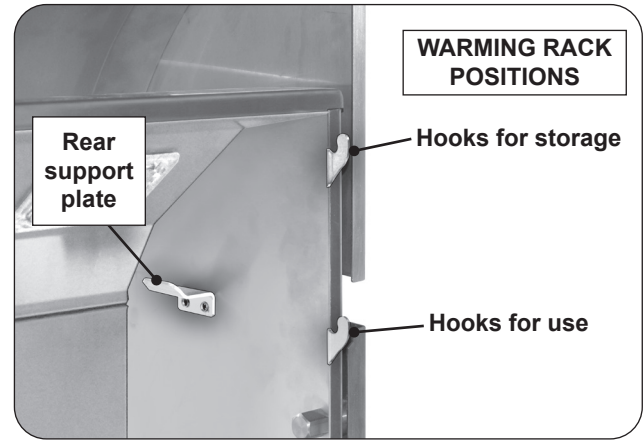
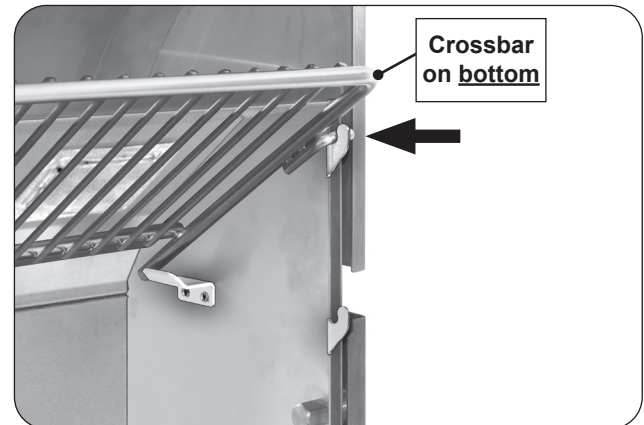

Fig. 32-1 Warming rack hooks
Fig. 32-3 Place warming rack in storage position
1. Locate the warming rack hooks and rear supports found on the upper portion of the grill oven (see Fig. 32-1).
3. Use the top hooks for storage (see Fig. 32-1 and Fig. 32-3).